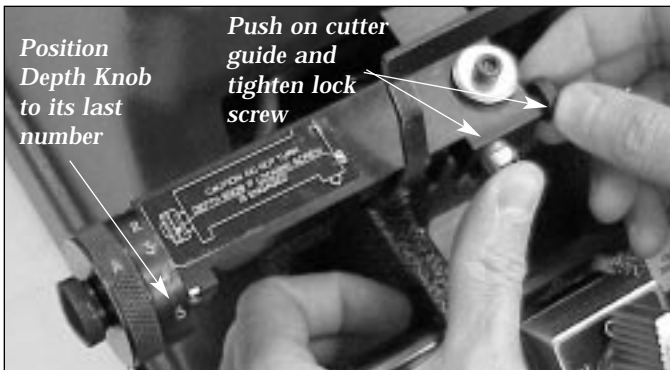

Figure 4
1. Set machine in duplication mode. This is accomplished by positioning the depth knob in to its deepest cut position. (This is the last number, usually the highest, encountered as you rotate the depth knob away from you.) At this point, push in on the cutter guide until it stops and tighten the locking screw in that position (See Fig. 4)